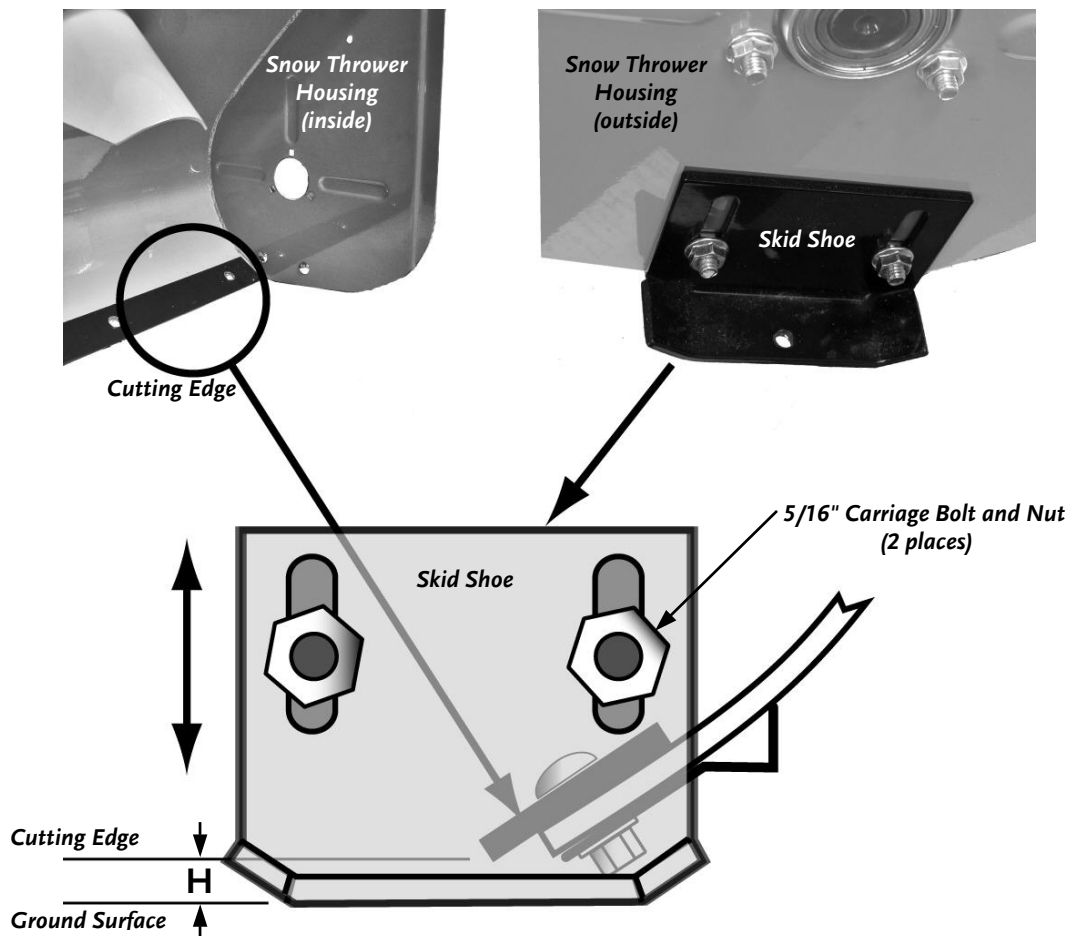

Figure 14
Adjust the Skid Shoes in order to allow the required clearance (H) between the Cutting Edge of the Snow Thrower and the surface that you are cleaning (**Figure 14**). For a level paved or cement surface, the clearance (H) should be  $1/16"$  to  $1/8"$ . For a gravel or uneven surface, depending the gravel size, the clearance (H) should be  $1/2"$  to  $5/8"$ .
1. Using a  $1/2"$  Wrench or Socket, loosen the two (2) Nuts on the  $5/16"$  x  $5/8"$  Carriage Bolts that retain the Skid Shoe (**Figure 14**). For ease of adjustment, loosen only one side at a time.
2. Adjust the Skid Shoe to the required height (H) and tighten the Nuts (**Figure 14**).